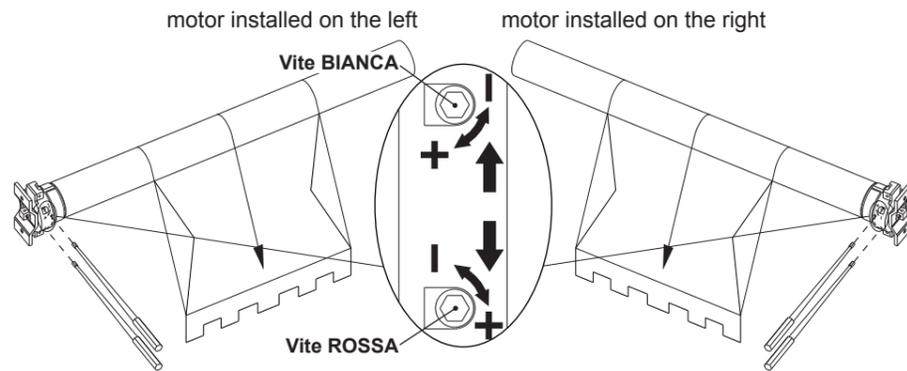

Fig. 4
3.2 Use with sunshades (Fig.4)